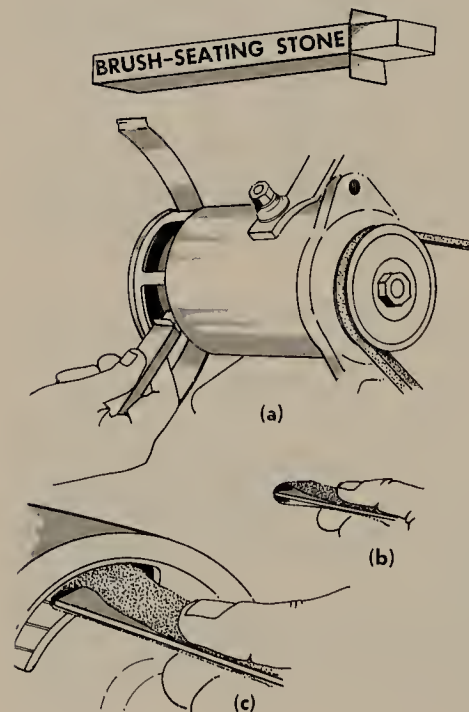

FIGURE 13.3 Cleaning commutator with a brush-seating stone (a) or sandpaper (b and c).
(Fig. 13.3). Never use emery cloth to clean the commutator. Some manufacturers supply brush replacement kits. The grounded brush lead is riveted to the end cap, and the rivet must be drilled out so the new brush lead can be riveted into place. The insulated brush is connected to the field lead and must be unsoldered to remove it. Then the new brush lead is soldered to the field lead. Rosin, not acid, soldering flux must be used.
3. *Commutator.* If the commutator is glazed or dirty, it can be cleaned with #00 sandpaper. One way of applying the sandpaper to the commutator is to put the armature in a lathe and, while it is rotating, hold the sandpaper against the commutator. On starter-generators with a cover band or windows in the end frame, it is possible to apply the sandpaper, as shown in Fig. 13.3, while the engine is running and driving the starter-generator. If the commutator is rough, out-of-round, or has high mica, it should be turned down in a lathe and the mica should be undercut, as shown in Figs. 13.6 and 13.7.